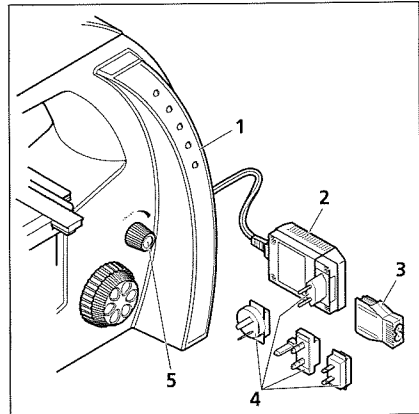

Fig. 3 Starting up the microscope
- Remove the plug-in power unit (Fig. 3/2) from its storage fixture on the back wall of the microscope.
- Replace the installed power outlet adapter by one of the supplied country-specific adapters (Fig. 3/4), if necessary. To this end, pull off the attached adapter and plug on the desired adapter.
- If the plug-in power unit cannot be plugged into the chosen power outlet because of limited space, replace the power outlet adapter by the supplied IEC adapter (Fig. 3/3). This allows the plug-in power unit to be put flat onto the tabletop and connected to the power outlet through a country-specific appliance cable.
- Turn on the microscope with rotary switch (Fig. 3/5) and adjust the illumination to the desired intensity.
The selected intensity is indicated in five steps by the blue light-emitting diodes (Fig. 3/1) arranged on both sides of the stand.